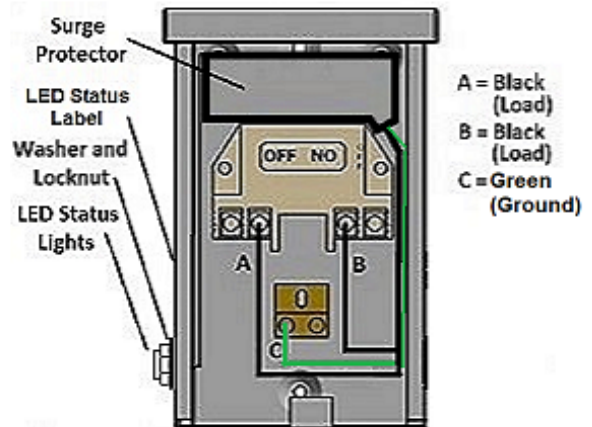

Figure 1
1. You may temporarily remove the Surge Protection Device Module to gain access to the mounting holes. After mounting AC disconnect carefully return the SPD back to its original position. Referring to Figure 1, ensure wires from SPD are securely fastened to the appropriate terminal lugs as noted.
To connect the Surge Protective Device module in the AC Disconnect Closure, refer to Figure 1 and follow the installation instructions below.